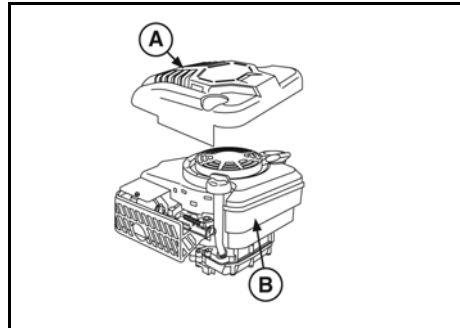

Figure 17
1. Remove finger guard (A, Figure 17) and fuel tank (B) from top of engine.